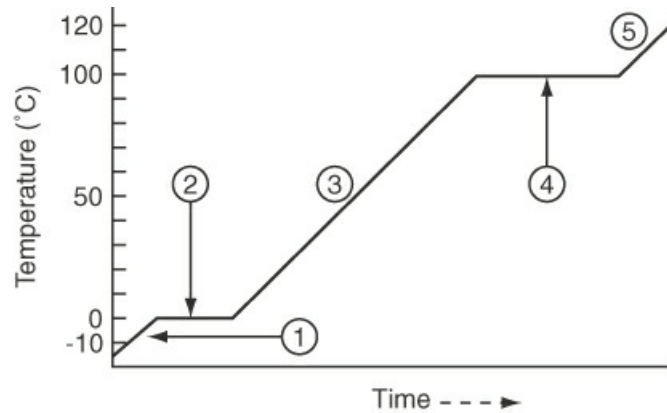

Figure P8.4.8
****8.4.8** Figure P8.4.8 shows a pure substance that is heated by a constant source of heat supply.